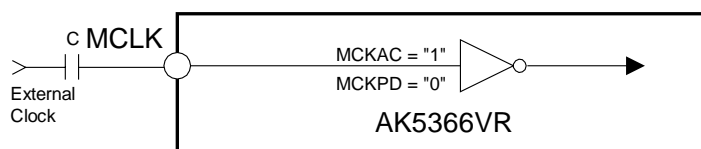

Figure 2. External Clock mode (Input : $\geq 50\%DVDD$, Input circuit example)
*Refer to Figure 2 for input circuit example.